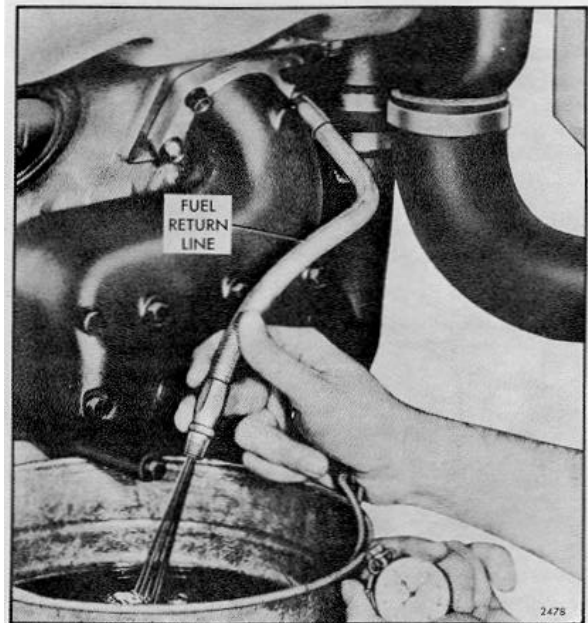

FIG. 9 Measuring Fuel -Flow
1. Disconnect the fuel return hose from the fitting at the fuel tank and hold the open end in a convenient receptacle (Fig. 9).